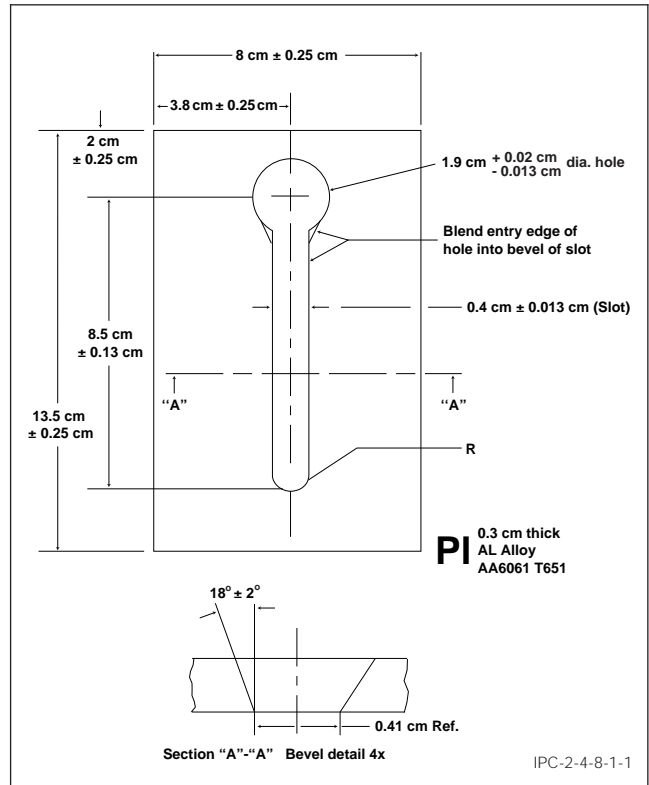

Figure 1 Keyhole Test Plate
4.2 Keyhole test plate per Figure 1, or equivalent